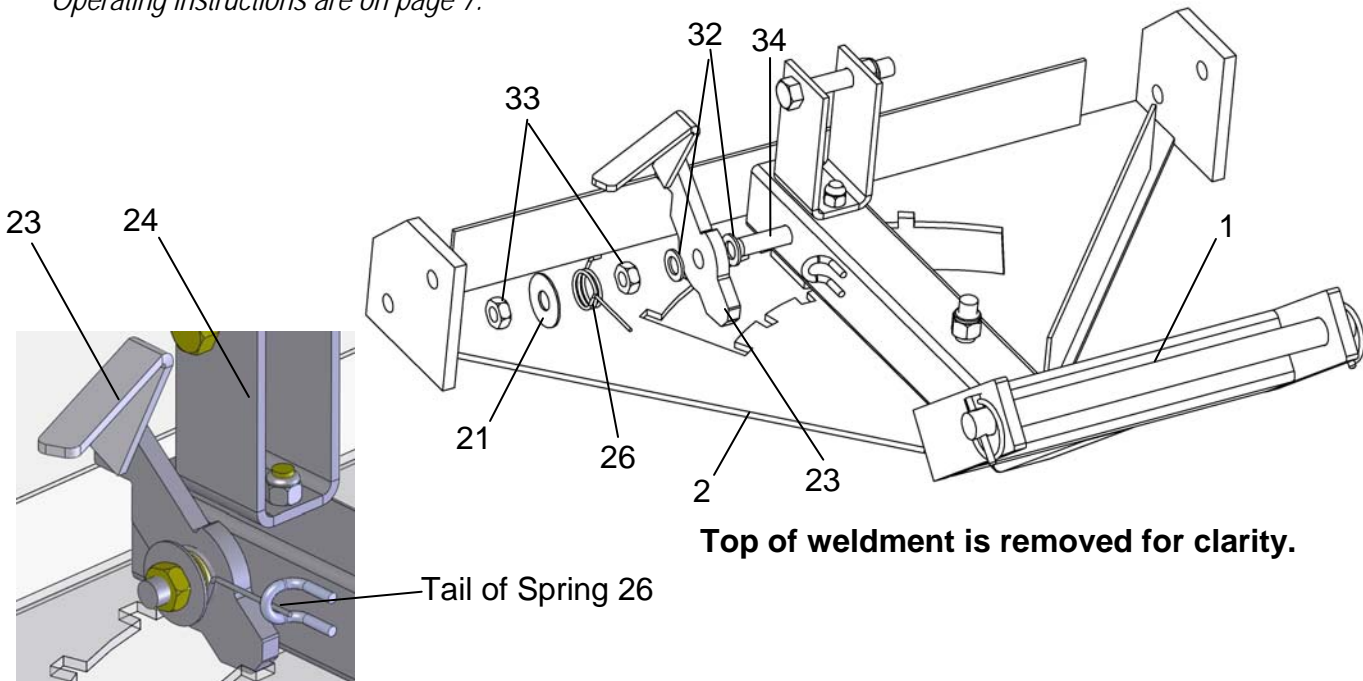

Figure 3
2. Slide the plow mount (1) into pivot weldment (2), secure with $\frac{1}{2}$ -13 X 3 1/2 bolt (34) and $\frac{1}{2}$ -13 nyloc nut (8).
3. Assemble the Pivot Latch assembly in the order shown below. The Pivot Latch assembly consists of the following components - lock arm (23), two bushing (32), two $\frac{1}{2}$ -13 lock nut (33), Washer (21), pivot spring (26) and $\frac{1}{2}$ -13 X 3 1/2 bolt (34) to plow mount (1). Make sure the tail of the pivot spring is secured into the bent metal loop on the plow mount. See Figure 3 below. Note, the lock arm should be able to pivot freely after being assembled.
4. Bolt plow mount bracket (24) and plow bracket support (25) to plow mount (1), as shown, using two 3/8-16 X 3 bolts (10) and two 3/8-16 nyloc nuts (12).
5. Insert $\frac{1}{2}$ -13 X 3 bolt (9) into plow mount bracket (24) and secure with $\frac{1}{2}$ -13 nyloc nut (8). Do not over tighten as this can bend the plow mount bracket. This is where you will attach your winch or manual lift pulley, sold separately.
6. With your Swisher ATV Accessory Mount already installed, attach the plow using plow mount pin (6) and two 3/16 click pins (7).